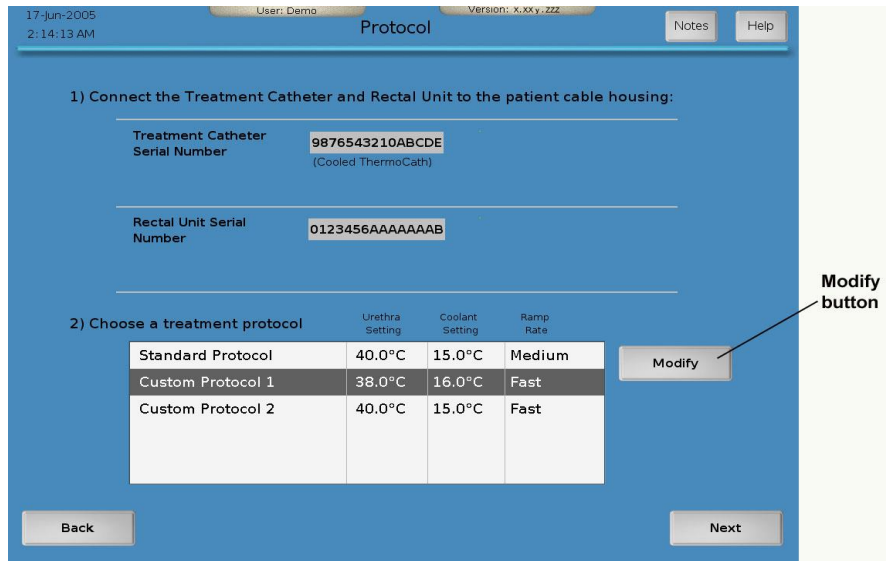

Figure 3-20. Example of Protocol screen - modify
5. Select a custom protocol, if you have not done so already, by pressing on the treatment protocol name. Then, press the **Modify** button (Figure 3-20).